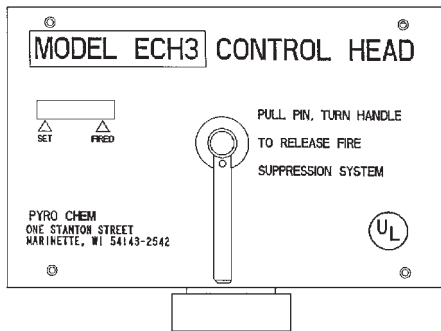

Figure 2-6. Electric Control Head.
The Model ECH3 electric control head is an electrically operated control head which can be connected to the PCI-15/17/25s/35/50s/70 cylinder valve. This control head will support an electric thermal detection system, a remote mechanical pull station (Model RPS-M), and an electric gas shut-off valve. It will not support a fusible link detection system. A micro switch (Model MS-DPDT) is included. The Model ECH3 control head is available in both 120 VAC (Model ECH3-120) and 24 VDC (Model ECH3-24). It is equipped with a local manual control handle that allows for mechanical system actuation. Operation of the local manual control requires removing the pull pin and rotating the handle clockwise. The Model ECH3 control head can actuate a maximum of five (5) cylinders. See **Figure 2-6**.